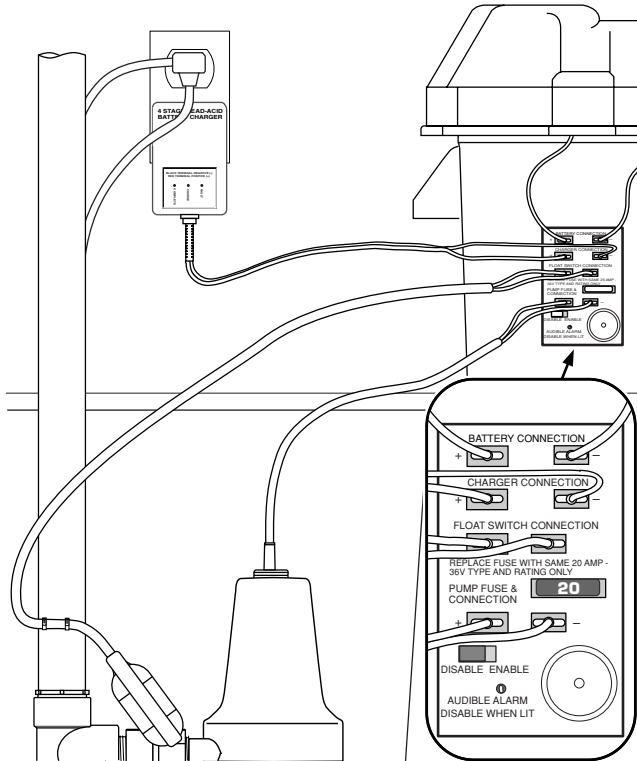

Figure 9 – Wiring Connections FP1800DCC-01
1. Apply two pieces of two-sided tape (provided, Key No. 9) to the back of the junction box. Press the junction box onto the battery box as illustrated in Figure 9 and on Page 15 (Exploded View).
2. Connect the charger as shown in Table I and Figure 9.